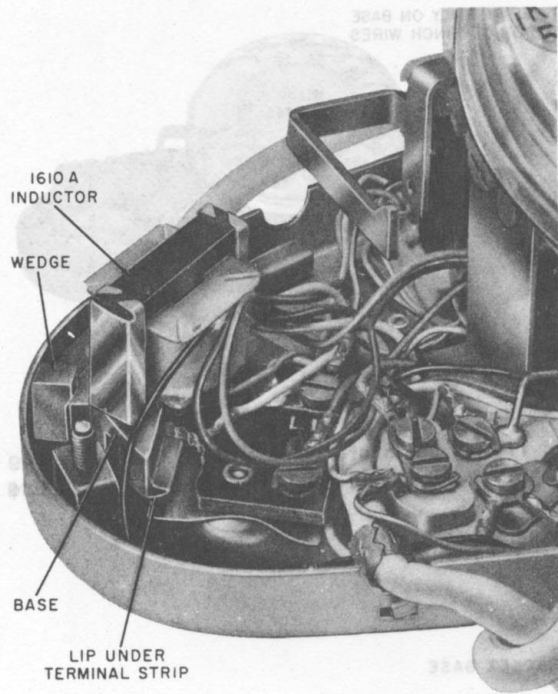

Fig. 7—Location of 1610A Inductor
- (1) Remove housing from telephone set.
- (2) Loosen dial and mounting cord stay hook, lay aside.
- (3) Install inductor as shown in Fig. 7 and 8.